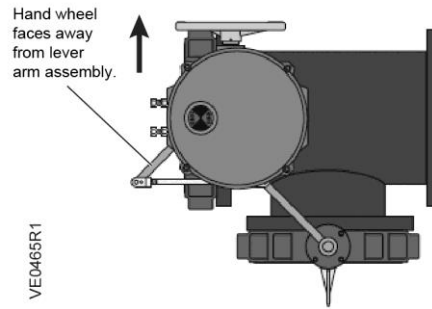

Figure 7. Proper Hand Wheel Alignment.
- Ensure that the hand wheel is oriented away from the lever arm assembly. See Figure 7.